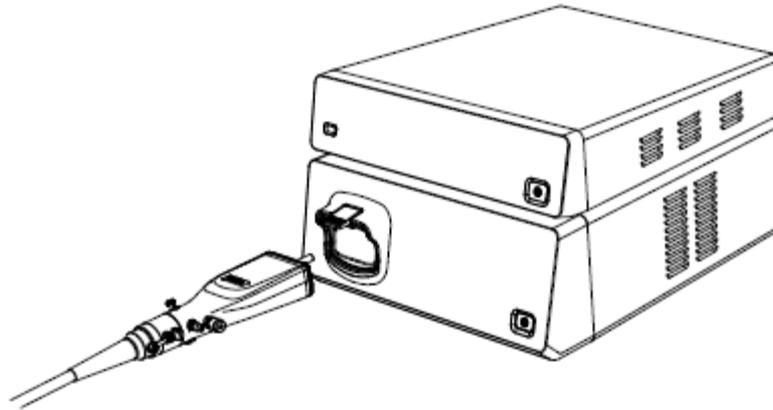

Figure 3.1.1
- 2 Insert the endoscope connector of the endoscope firmly into the endoscope connector of the light source as shown in Figure 3.1.1.